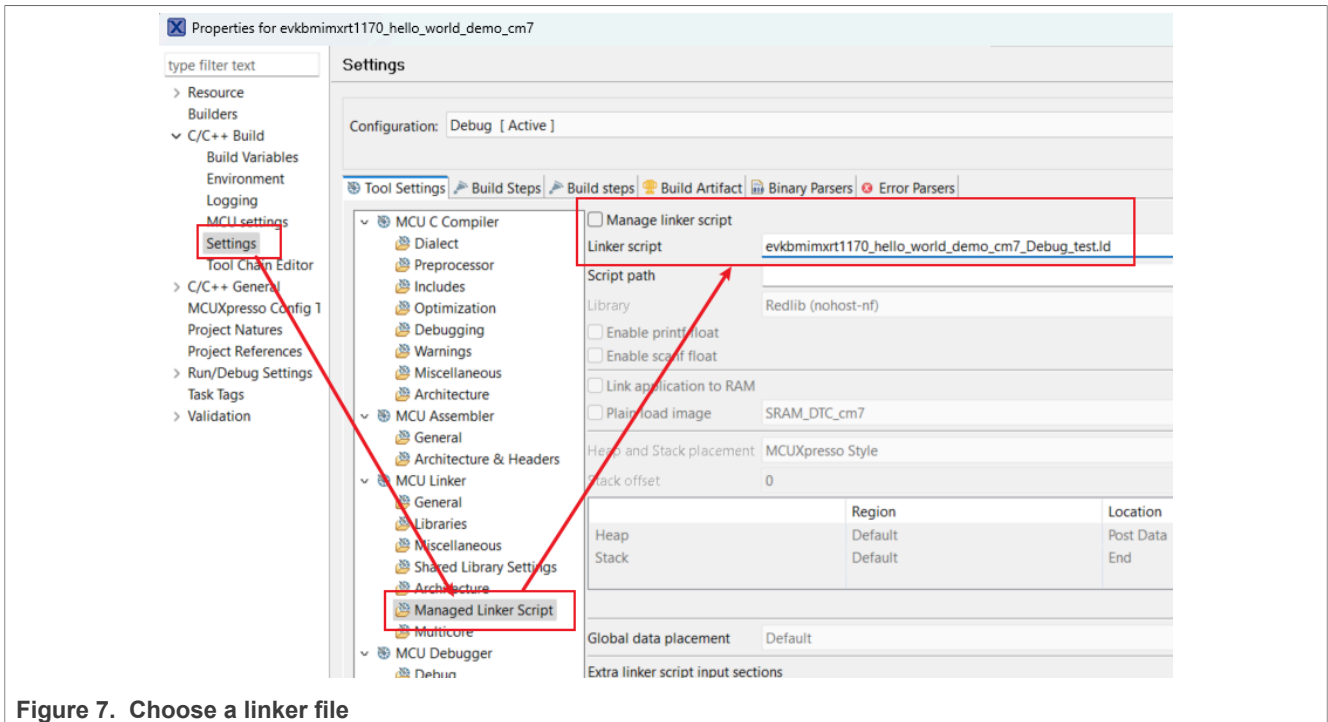

Figure 7. Choose a linker file
2. Open the configuration of the project, and choose to use the `evkbmimxrt1170_hello_world_demo_cm7_Debug_test.ld` file as the link script according to the steps shown in Figure 7.